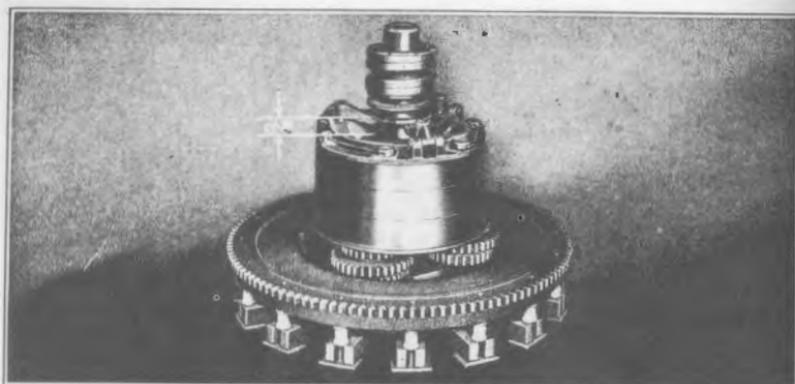

Fig. 206
- 315 Adjust the three clutch finger screws until there is a clearance of  $\frac{13}{16}$ " between lower side of clutch shift and drive plate shaft flange (See Fig. 206). The adjusting screws are then locked in position by inserting cotter keys through fingers and screws.